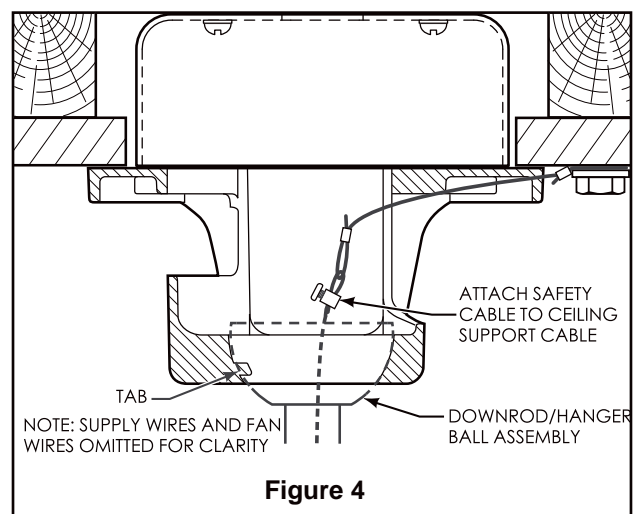

Figure 4
4. Carefully lift the fan and seat the downrod/hanger ball assembly on the hanger bracket that was just attached to the outlet box. Be sure the groove in the ball is lined up with tab on the hanger bracket (Figure 4)
5. Attach the safety cable to ceiling support cable. Slide cable clamp and washer onto safety cable (from fan). Place the end of cable through the loop of ceiling support cable. Pull as much cable through loop as possible. Feed end of cable into clamp hole and firmly tighten screw (Figure 4).